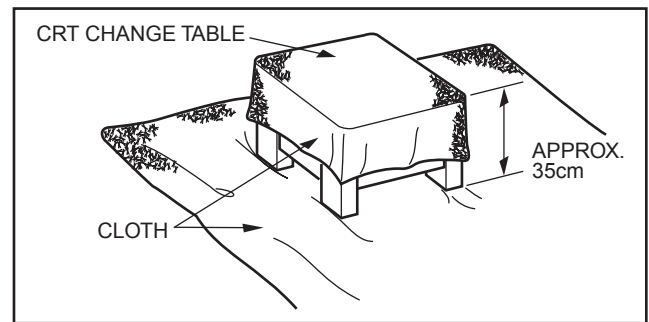

Fig.7
- (3) Remove 4 screws marked by arrows with a box type screwdriver as shown in Fig. 7.